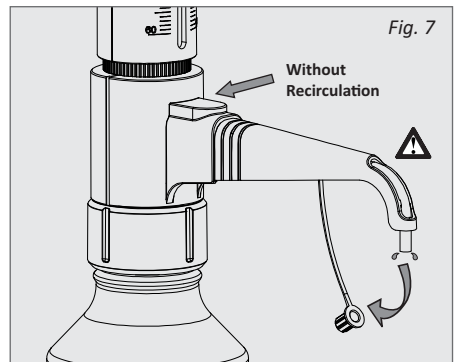

Fig. 7
2. Hold the spout and carefully open the nozzle cap. (Fig. 7)